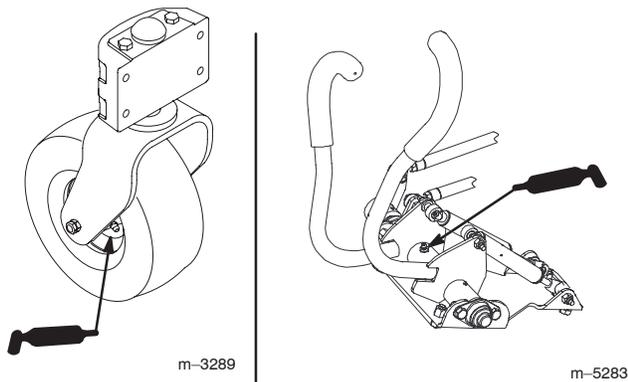

Figure 70
1. Lubricate the castor wheel bearings and motion control lever pivot until grease begins to ooze out of the bearings (Fig. 70).